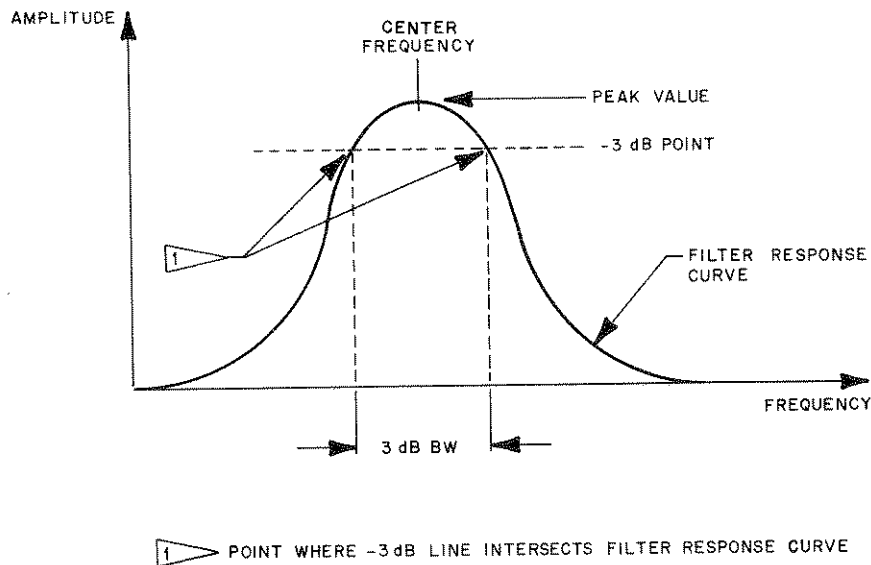

Figure D-1 Determining the Resolution Bandwidth on Filter Response Curve
Resolution Bandwidth is the width in Hertz (Hz), of a spectrum analyzer's response to a Continuous Wave (CW) signal. This width is the frequency difference at specific points on the response curve (see Figure D-1). The points are either 3 or 6 dB down from peak.